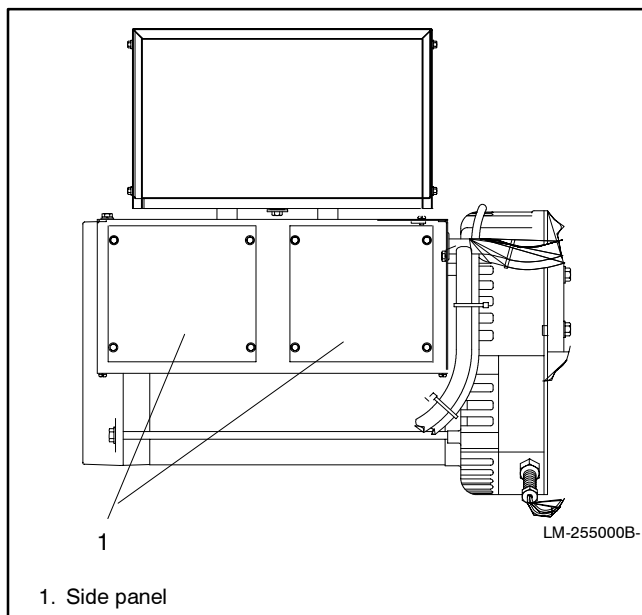

Figure 6-13 Junction Box Side Panels
4. Remove eight screws securing junction box side panels. See Figure 6-13. Remove side panels.